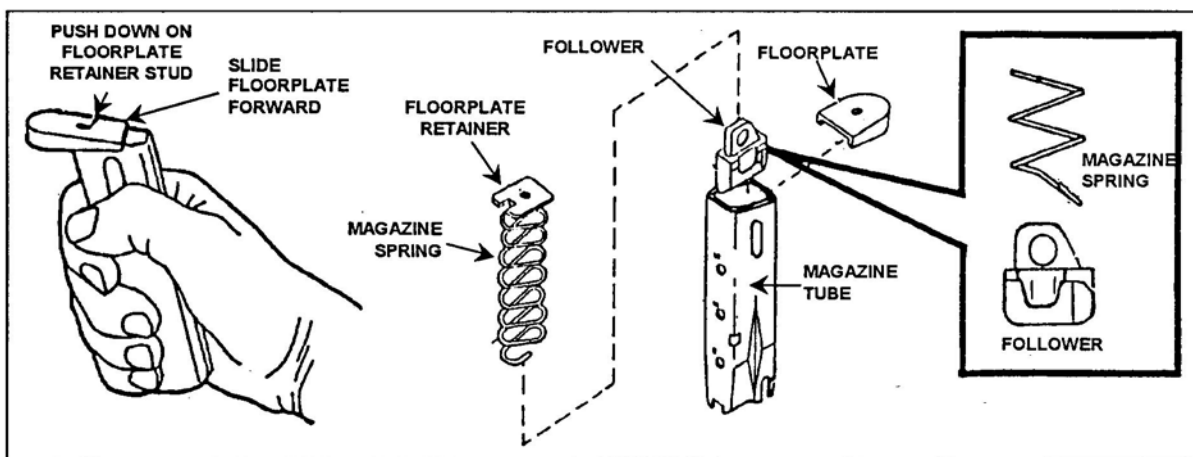

Figure 4. Disassembly of the magazine.
- i. Disassemble the magazine (Figure 4).
- (1) Attach a bore brush to a cleaning rod. Moisten the bore brush with CLP and insert it into the chamber end of the barrel. Make sure the brush completely clears the muzzle before you pull it back through the bore. Repeat this procedure several times to loosen carbon deposits.
- (2) To clean and dry the barrel, push a clean swab through the bore. Repeat as necessary with fresh swabs until a swab comes out clean.
- (3) Clean locking block with a soft brush.
- (4) Clean the recoil spring and spring guide with CLP and a soft brush or cloth.
d. Magazine (Figure 4).
- (1) Wipe the magazine tube and the follower with CLP, a cloth, and a soft brush.
- (2) Clean the magazine spring, floor plate retainer, and floor plate with a clean cloth.
- (1) Check for bends, chips, and cracks.
- (2) Check to ensure the slide stop and magazine stop move freely.
- (3) Check the guide rails for excessive wear, burr, cracks, or chips.
e. Magazine assembly (Figure 4).
- (1) Check for damage to the spring and follower.
- (2) Inspect magazine lips to ensure they are not bent excessively and to ensure they have no cracks and burrs.